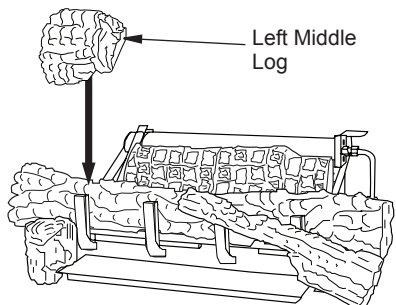

Figure 28 - Installing Left Middle Log
5. The left middle log has a groove on the bottom to sit on the chassis and has to sit on the tab on the back of the left front log as shown in Figure 28.